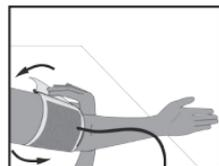

Fig. 4
- Now pull the free cuff end tight and close the Velcro fastener (Fig. 4)